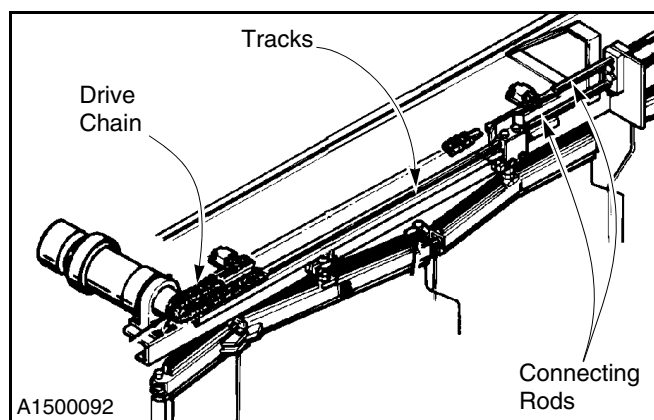

Figure 21
2. **Drive Chain:** Lubricate the drive chain with a good-quality grade of heavy lubricating oil. (See Figure 21.)
3. **Connecting Rods and Tracks:** Lubricate the connecting rods and tracks with a medium-viscosity, low-torque grease having an approved temperature rating of -30° to $+200^{\circ}$ F. (See Figure 21.)